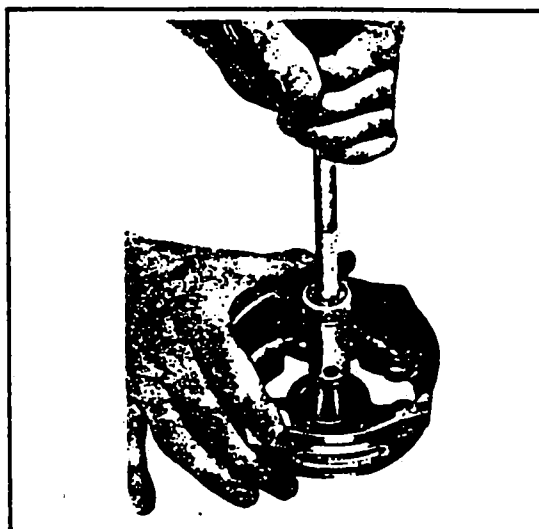

Figure 11-23. Removal of Slip Ring End Bearing
e. To remove the slip ring end bearing and grease seal, it will be necessary to have a hook type or impact type bearing puller as shown in Figure 11-23. Do not remove the bearing unless replacement is necessary.